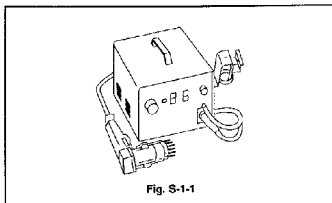

Fig. S-1-1
- a. Prepare the Hot - Air Flat Pack - IC Desoldering Machine, then apply hot air to Flat Pack - IC (about 5-6 seconds). (Fig. S-1-1)